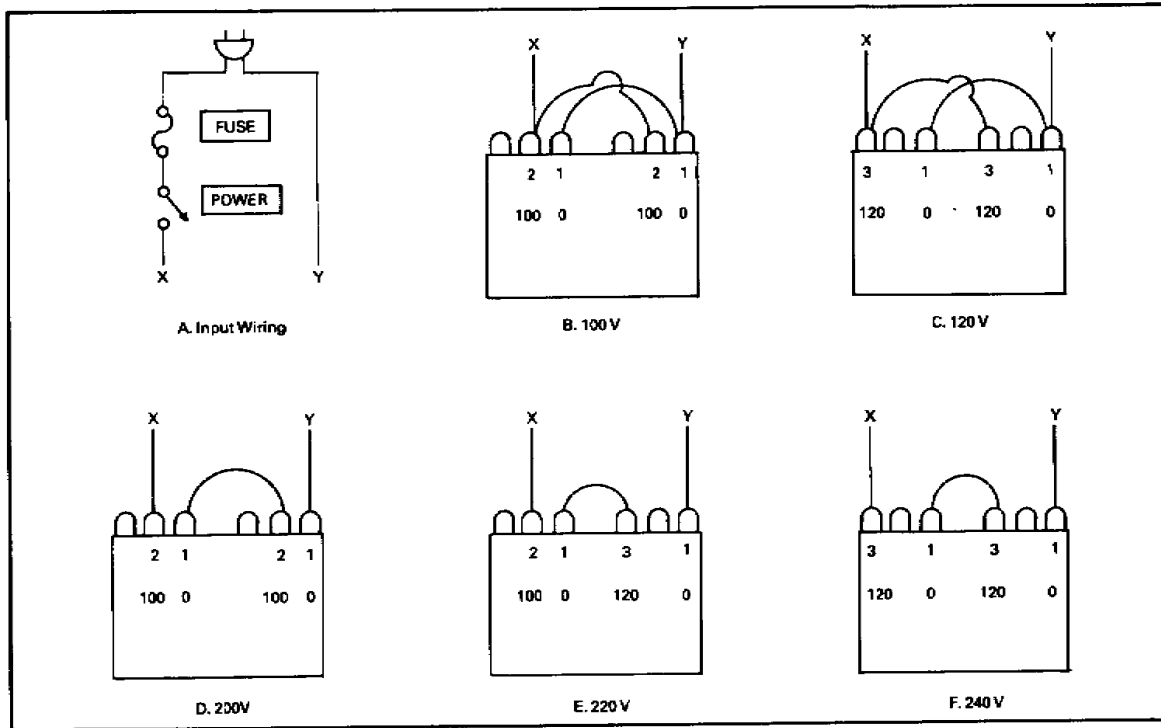

Figure 2-5.
4. Compare the wiring of the power transformer to that shown in Figure 2-5. If you want to adapt the instrument to operate from a different voltage, determine the correct wiring diagram from Table 2-1.